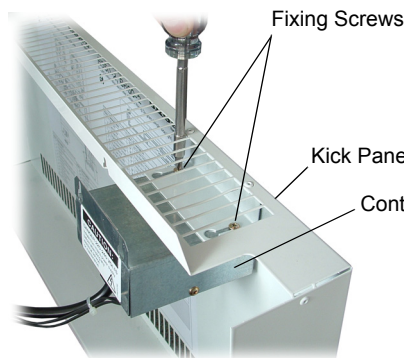

Figure 2:
2. Locate the controller box onto the back of the kick panel, so the two screws in the top of the controller box slot into the keyholes in the kick panel. Tighten the keyhole fixing screws through the top set of slots (see Figure 2 below).